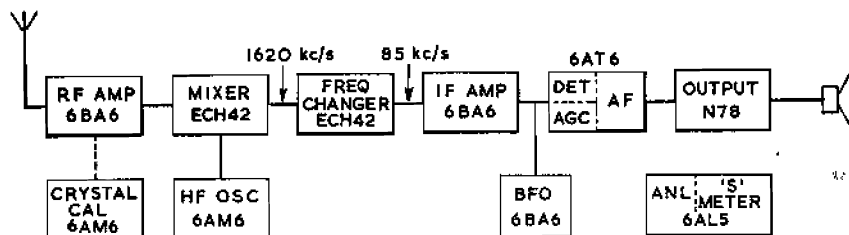

Fig. 8. Block outline of a modern double-conversion communications receiver designed for Amateur Radio use.
1.6–2.5 Mc/s, providing a high order of image rejection with say one stage of r.f. amplification, and thus avoiding the high cost of many r.f. tuned circuits. Then in turn these signals are changed, with the aid of a fixed tuned local oscillator, to a much lower frequency, of the order of 50–100 kc/s (or occasionally to the standard i.f. range of 455–470 kc/s). It is at this second i.f. that the main amplification takes place and high selectivity can be achieved. Thus this double-conversion system (see Fig. 8) can offer both good image protection and high selectivity, but at the cost of added complexity in design and construction. Great care is necessary if spurious signals resulting from the harmonics of the several oscillators within the set are to be avoided completely; there is also some risk that the full benefits of the high selectivity may be lost owing to cross-modulation occurring due to overloading one of the earlier stages.